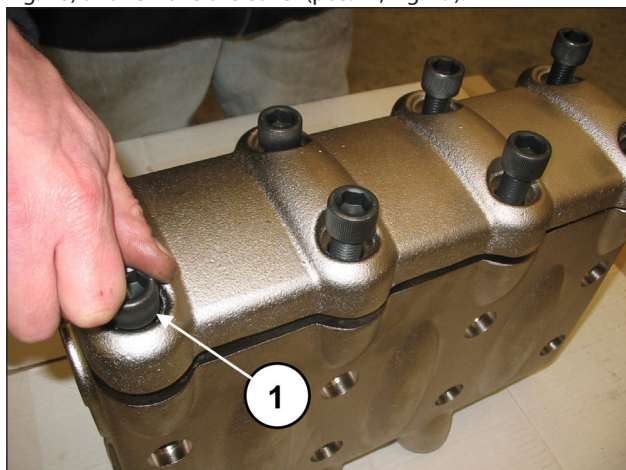
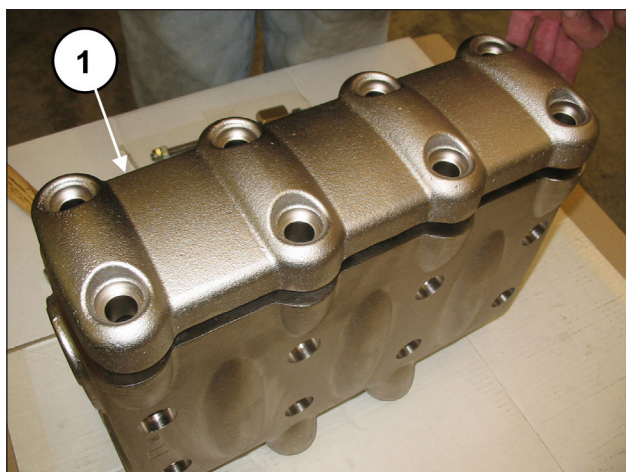

Fig. 78
Fig. 79
Unscrew the 8 M16x55 screws of the valve cover (pos. ①, Fig. 78) and remove the cover (pos. ①, Fig. 79).